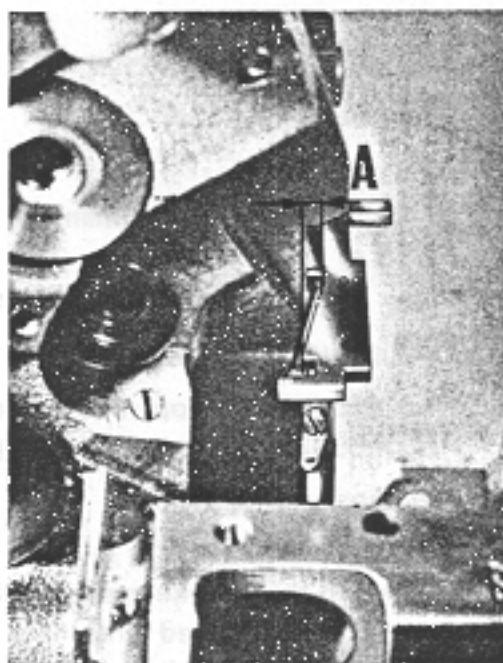

fig. 5
- Rest the gauge S. 1665.00 on the milled base as in fig. 5; obtain correct inclination by moving lever C and by rotating the looper (previously having only been held in its seating and not locked).